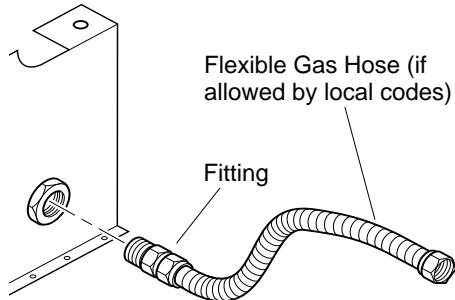

Figure 11 - Attaching Flexible Gas Hose to Heater
1. Apply pipe joint sealant lightly to male threads of the fitting to be threaded into gas regulator. Connect approved flexible gas hose to gas regulator of heater (see Figure 11, page 11).